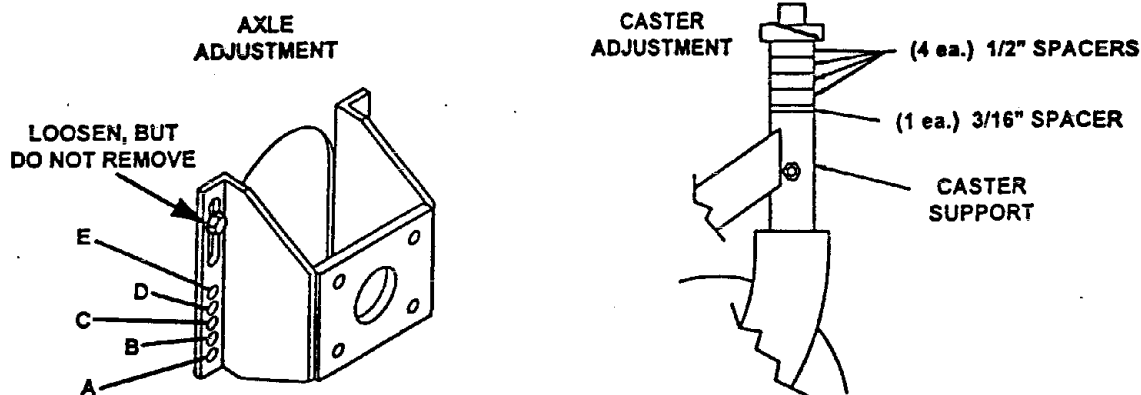

FIG. 9
Desired cutting height range can be obtained by adjusting the rear axle and placing caster spacers above or below the caster arm (See Figure 9).
- c) Loosen but do not remove the **top** two bolts on each hydraulic motor mounting bracket, **DO NOT** remove (See Figure 9).